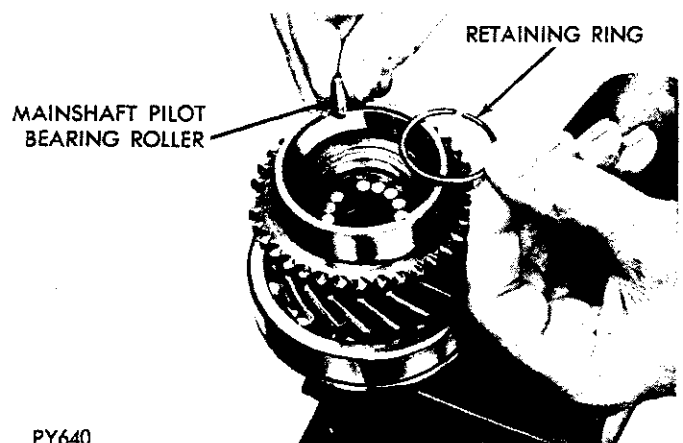

Fig. 25—Installing Rollers in Drive Pinion Gear
(9) Install 15 rollers and retaining ring in gear (Fig. 25).